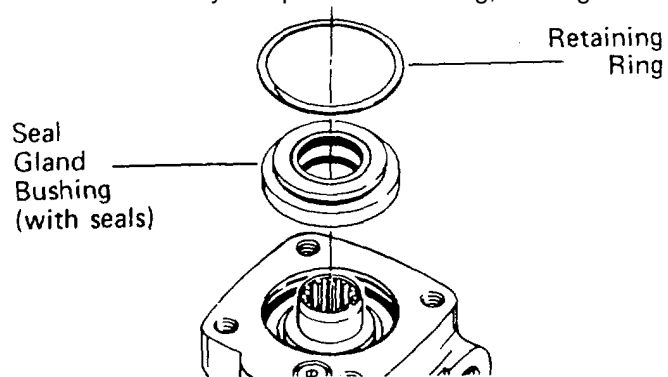

Figure 18
17. Install retaining ring (see Fig. 18 and 19) in housing. After installing ring, tap on ring end or pry with screwdriver around entire circumference of ring to properly seat ring in groove.